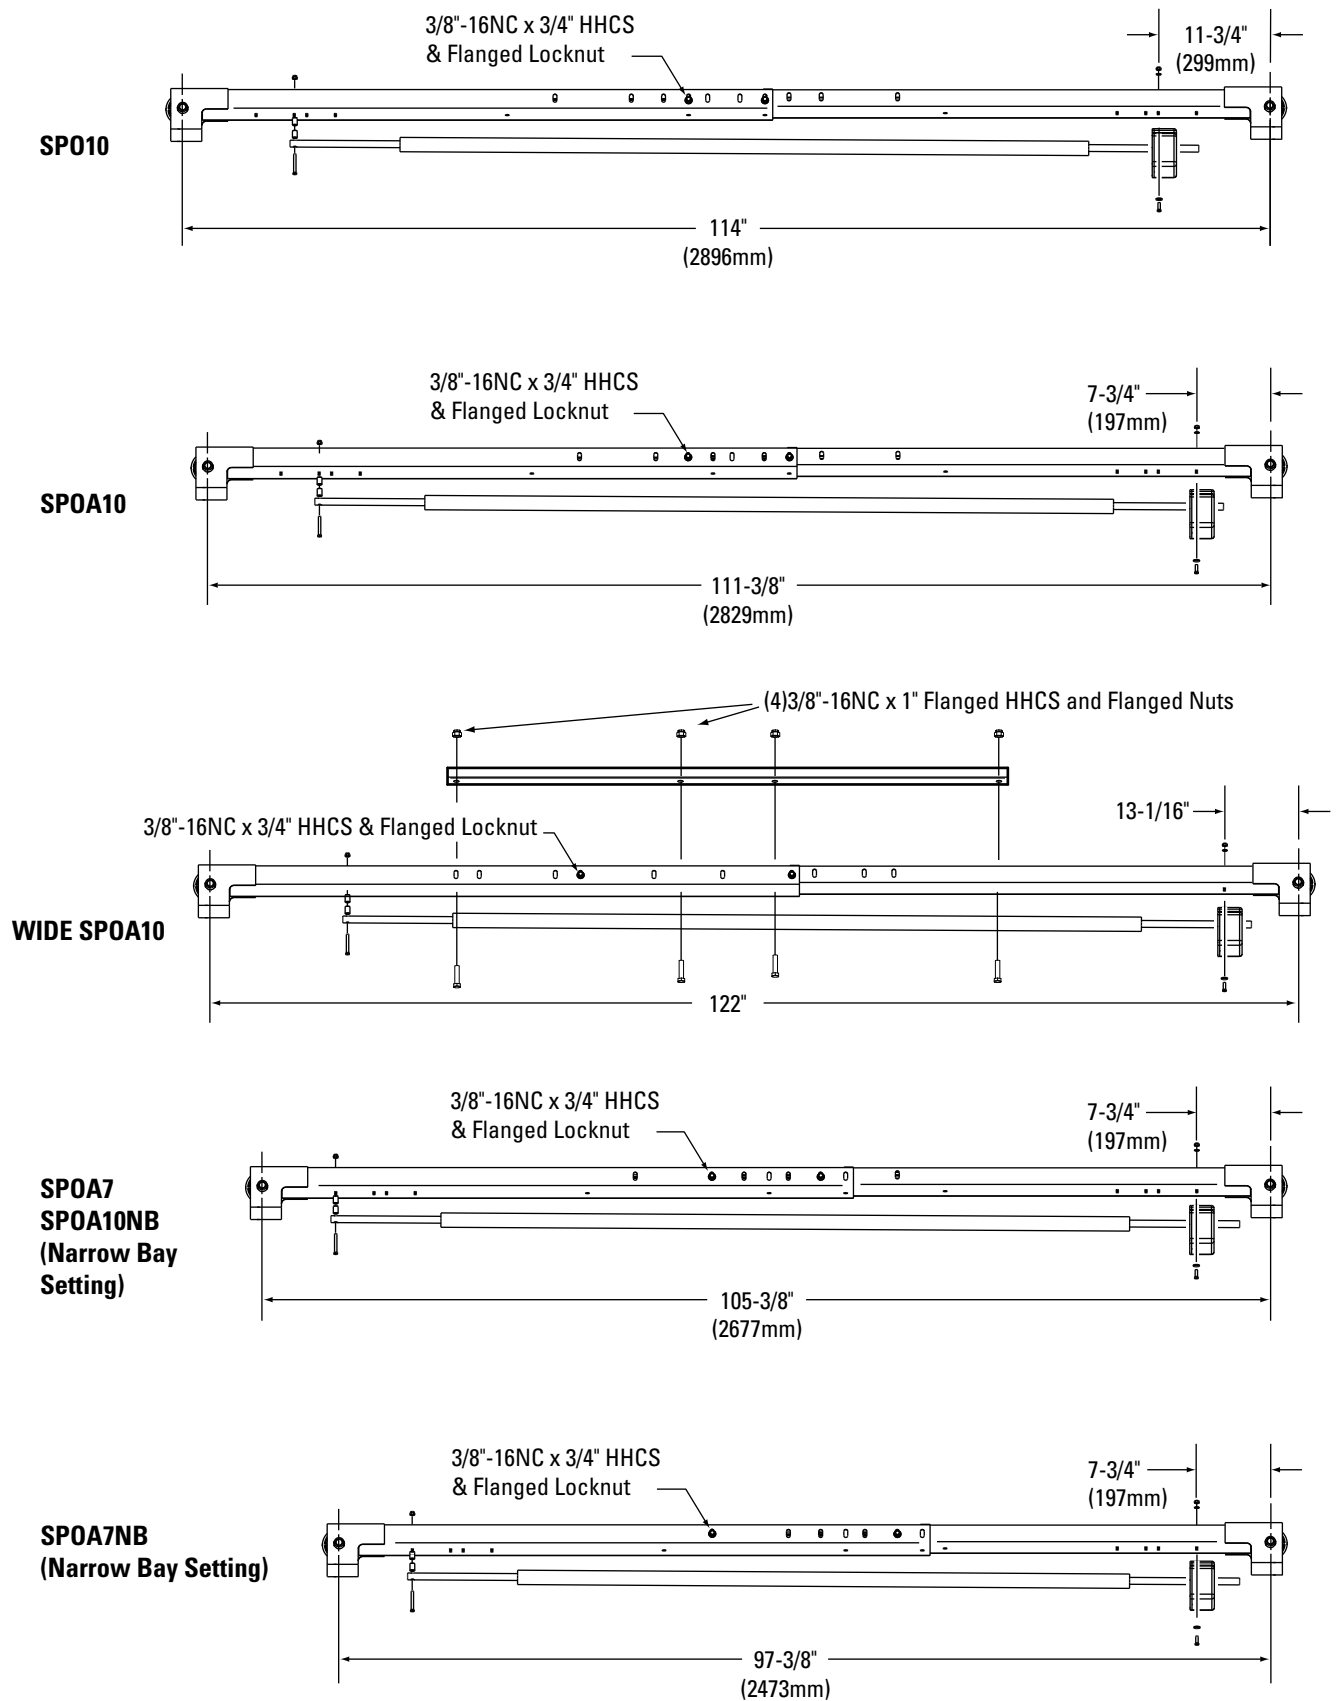

Fig. 6
7a. Overhead Assembly: Fig. 6: Adjust overhead to appropriate dimension. Install (4) 3/8"-16NC x 3/4" HHCS & 3/8"-16NC Flanged Locknuts, do not tighten.
For single phase and three phase lifts with push button control box: Insert 1/4\"-20NC x 2-3/4\" HHCS through pivot hole in end of switch bar. Insert opposite end of bar through slot in switch mounting bracket. Then secure HHCS and Switch Bar to overhead as shown, Fig. 6 and 6a, using (2) 3/4\" (19mm) spacers and 1/4\"-20NC Locknut. Tighten Hex bolt leaving 1/16\" (1.6mm) gap between the spacer and the overhead assembly.
8. Overhead Installation: Install overhead assembly to Mounting Bracket with (2) 3/8\"-16NC x 3/4\" Flanged HHCS, (2) 3/8\"-16NC Flanged Serrated Locknut, Fig. 6. Use middle holes for SPO9/SPO10 and outside holes (marked L for Left and R for Right) for SPOA7/SPOA9/SPOA10NB/SPOA10. Tighten bolts at center of overhead assembly.